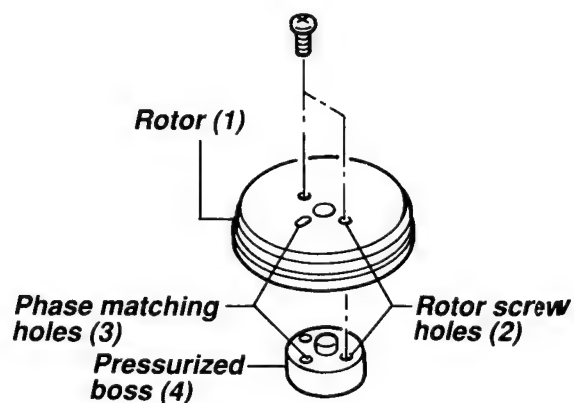

Fig. 4-2-5 Phase matching of rotor pressurized boss
When assembling a new rotor, align the two phase matching holes to fit the rotor and the pressurized boss (4) (Fig. 4-2-5).